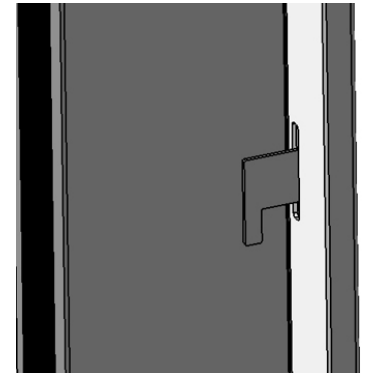

Fig. 15
11. a. Slide the left Side Trim into place by carefully guiding the Side Trim hooks through the Side Trim Attachment slots. Fig. 15 shows an inside view.